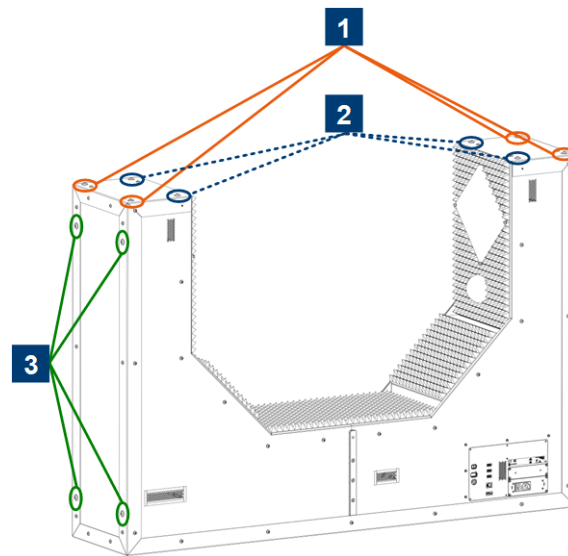

Figure 4-11: Attachment points for lifting equipment
Depending on the setup (lying or upright position), use the mounting holes indicated in Figure 4-11 to lift the R&S QAR50. Do not use different mounting holes and always use four mounting holes to distribute the weight equally.
- For the lying position: Use the mounting holes on top of the R&S QAR50. Use either the four outer mounting holes (variant 1 in Figure 4-11) **or** the inner mounting holes (variant 2 in Figure 4-11).